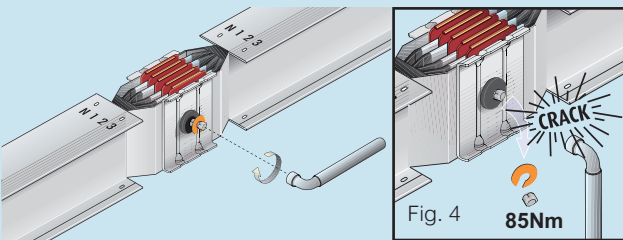

Fig. 4
- 3 Tighten the bolt of the monobloc until the 1st head breaks off (Fig. 4)